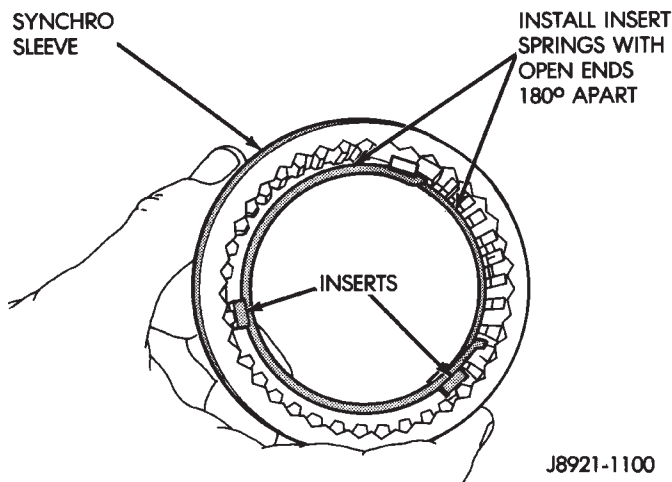

Fig. 75 Insert Spring Position
(5) Install inserts and springs in synchro sleeves. Position open ends of springs 180° apart as shown (Fig. 75).
(6) Install 3-4 synchro hub and sleeve on output shaft. Press hub onto shaft if necessary.